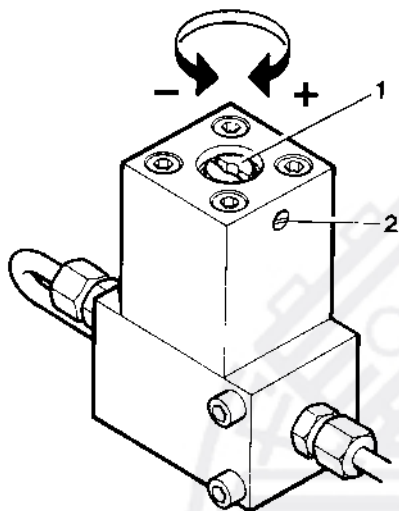

Fig. 70 Pressure maintaining valve, 500 bar units
The opening pressure is adjustable with screw (1, Fig. 70). First turn out stud (2) several turns.